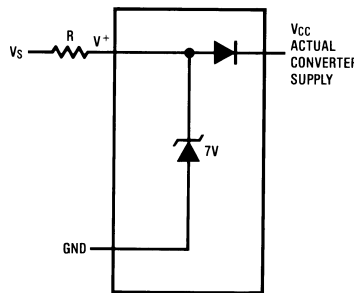

Figure 24. An On-Chip Shunt Regulator Diode
A unique feature of the ADC0838-N and ADC0834-N is the inclusion of a zener diode connected from the V^+ terminal to ground which also connects to the V_{CC} terminal (which is the actual converter supply) through a silicon diode, as shown in Figure 24⁽¹⁾.
(1) Internal zener diodes (6.3 to 8.5V) are connected from V^+ to GND and V_{CC} to GND. The zener at V^+ can operate as a shunt regulator and is connected to V_{CC} via a conventional diode. Since the zener voltage equals the A/D's breakdown voltage, the diode insures that V_{CC} will be below breakdown when the device is powered from V^+ . Functionality is therefore ensured for V^+ operation even though the resultant voltage at V_{CC} may exceed the specified Absolute Max of 6.5V. It is recommended that a resistor be used to limit the max current into V^+ . (See Figure 24 in Functional Description)